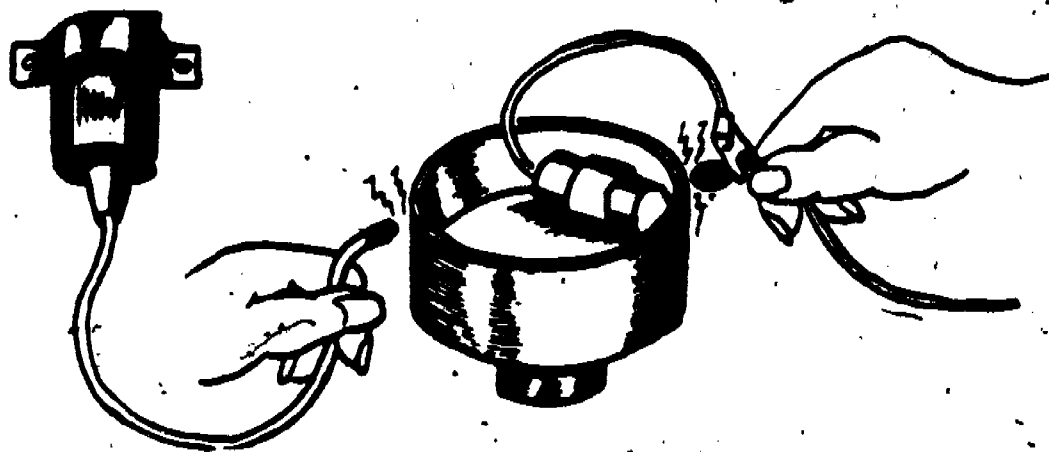

Figure 5. Checking Spark With Condenser in Circuit.
(1) Hold the coil secondary wire close to ground and hold the primary wire and condenser pigtail together, figure 5.